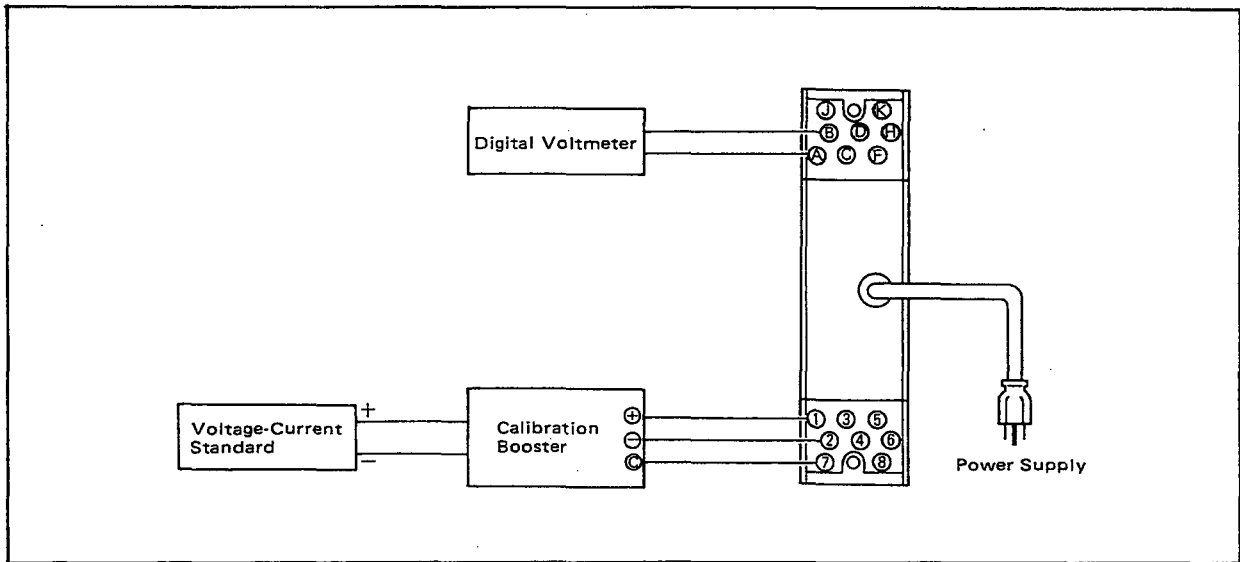

Figure 6-1. Calibration Wiring (SDBU-21□).
Wire the instruments as per Figure 6-1 or 6-2.
- (1) Connect the instrument as illustrated in Figure 6-1 or 6-2 and turn the power switch on. Allow the instrument to warm up for about 5 minutes.
If operational problems occur in the SDBU distributor, identify the problems fully and resolve them according to the troubleshooting flowcharts shown in Section 7-1 or 7-2. To find the problems, wire the instruments according to Figure 6-1 or 6-2, and apply an input signal.
- (2) Set the input current selector switch to desired input current.
- (3) Connect the instruments as illustrated in Figure 6-1. Turn the power switch ON and allow the instruments to warm up for at least 5 minutes.
- (2) Using a DC voltage standard, apply a voltage of 1 to 5 V DC to the input terminals as shown in Figure 6-1.
- (3) Confirm that the readings of the digital voltmeters (V_1) and (V_2) which are connected test points between TP1 and TP2 and between TP1 and TP3 respectively are within the values listed in Table 7-1.
- (4) If the readings of (V_1) and (V_2) are outside the range listed in Table 7-1, perform zero adjustment on the Sqrt card.